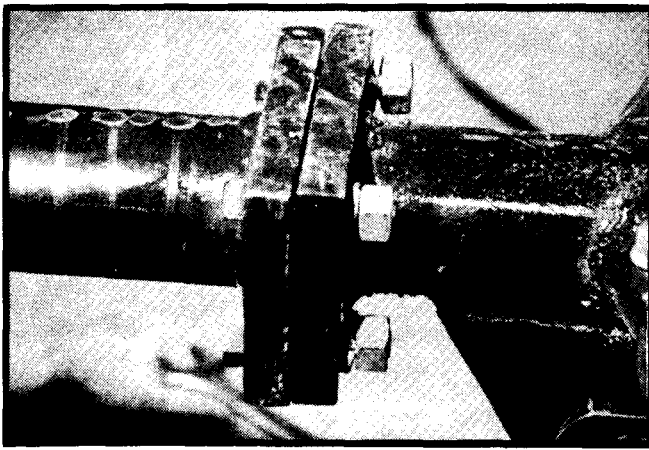

Figure 1
3. Bolt the tongue to the frame securing it with four 1/2-13 x 2 1/2" screws, lockwashers and nuts (See Figure 1).